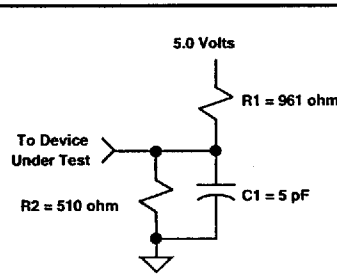

Figure 8: AC Test Load B
11. With load specified in Figure 8.